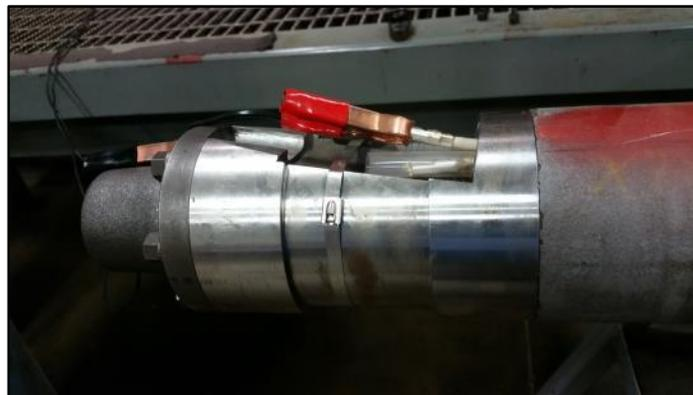

Figure 15: Bench Test Through the Pothead
7. Perform bench testing through the pothead using GRC surface readout. See FIGURE 15. Log the data to the ESP Sensor Checklist in APPENDIX 3.